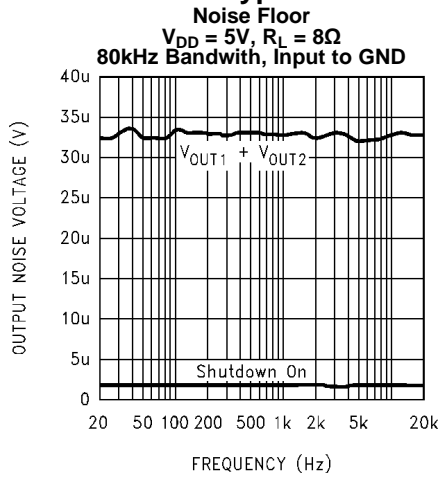

Figure 10.
- (1) Absolute Maximum Ratings indicate limits beyond which damage to the device may occur. Operating Ratings indicate conditions for which the device is functional, but do not ensure specific performance limits. Electrical Characteristics state DC and AC electrical specifications under particular test conditions which ensure specific performance limits. This assumes that the device is within the Operating Ratings. Specifications are not ensured for parameters where no limit is given; however, the typical value is a good indication of device performance.
- (2) If Military/Aerospace specified devices are required, please contact the Texas Instruments Sales Office/ Distributors for availability and specifications.
- (3) If the product is in Shutdown mode and VDD exceeds 6V (to a max of 8V VDD), then most of the excess current will flow through the ESD protection circuits. If the source impedance limits the current to a max of 10mA, then the device will be protected. If the device is enabled when VDD is greater than 5.5V and less than 6.5V, no damage will occur, although operation life will be reduced. Operation above 6.5V with no current limit will result in permanent damage.
- (4) The maximum power dissipation must be derated at elevated temperatures and is dictated by TJMAX,  $\theta_{JA}$ , and the ambient temperature TA. The maximum allowable power dissipation is PDMAX = (TJMAX – TA)/ $\theta_{JA}$  or the number given in Absolute Maximum Ratings, whichever is lower. For the LM4906, see Figure 10 for additional information.
- (5) Maximum power dissipation in the device (PDMAX) occurs at an output power level significantly below full output power. PDMAX can be calculated using Equation 1 shown in the Application Information section. It may also be obtained from the power dissipation graphs.
- (6) Human body model, 100pF discharged through a 1.5k $\Omega$  resistor.
- (7) Machine Model, 220pF–240pF discharged through all pins.